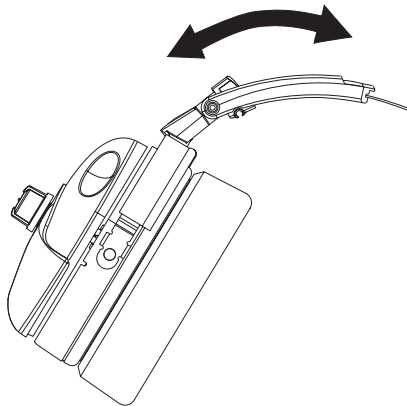

Figure 9
8. With the headband resting securely on the top of the head, check that the ear cups are centered over the ears. Reposition them if necessary by moving the headband sliders up or down (See Figure 9 on the next page). Proper performance depends on proper fit of the headset as described below.
To adjust the headband size, move the earcup sliders up or down on the headband (Figure 9). Size is properly adjusted when the earcups are centered over the ears. It is important to adjust both sides of the headband the same to keep the headband and pad properly centered over the head.